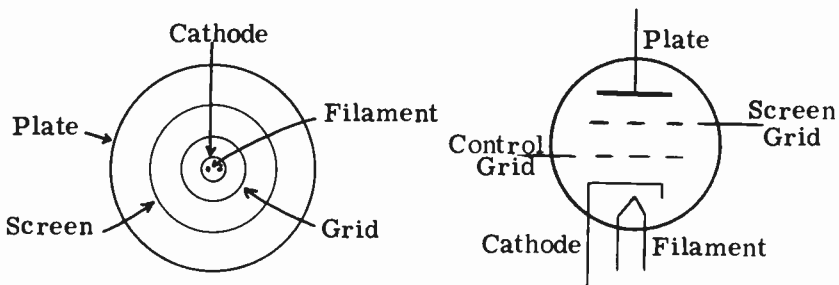

FIG. 8-10A. TOP VIEW OF A TETRODE. FIG. 8-10B. SCHEMATIC SYMBOL
**THE TETRODE.** In an effort to reduce the grid-plate capacitance within the tube, a fourth element was added to the triode. This fourth element is called a **SCREEN GRID** and the tube is called a **TETRODE**. The screen grid is placed between the control grid and the plate. The top view of a tetrode is shown in Fig. 8-10A. The schematic symbol of a tetrode is shown in Fig. 8-10B. The screen is wound in the form of a spiral grid, similar to the control grid. The screen shields the control grid from the plate and thereby reduces the grid-plate capacitance.